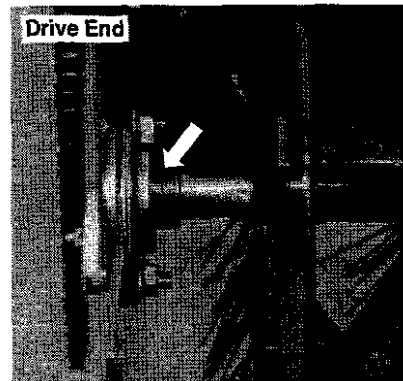

figure 15
3. Loosen 2 set screws on each lock collar located at each end of the brush core (figures 15 and 16).